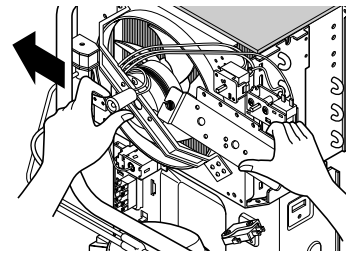

Figure 10
3. Pull neon lamp out. (See Figure 10)